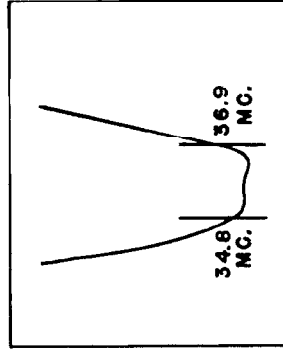

Figure No. 6. I.F. Response Curve
- Check the response curve on the oscilloscope against the curve shown on Figure No. 6.